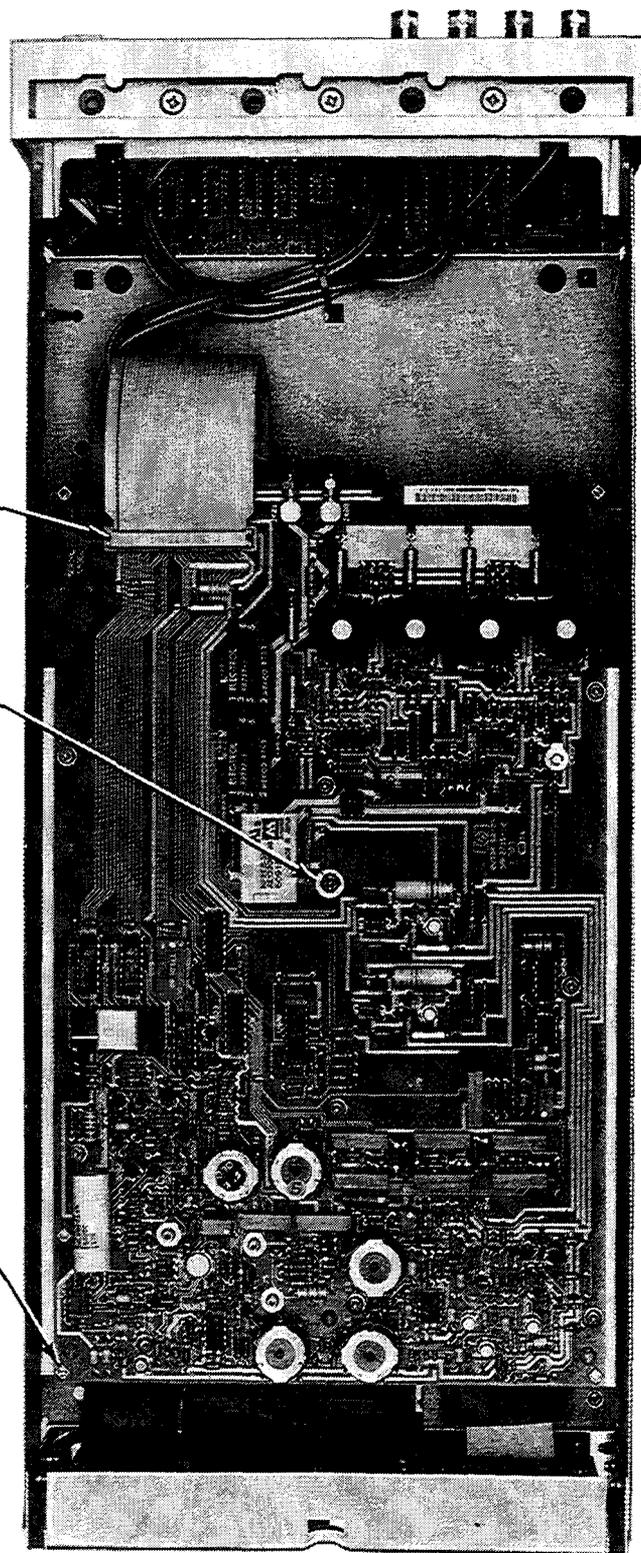

Figure 8-11. How to Access A3 in Instruments Equipped with Option 002
- If the instrument has Option 002 (a second output assembly, A10) and Output 1 (the output from the A3 Output Assembly) is to be checked, move the A10 Output Assembly out of the way. (Refer to Figure 8-11, *How to Access A3 in Instruments Equipped with Option 002*.)